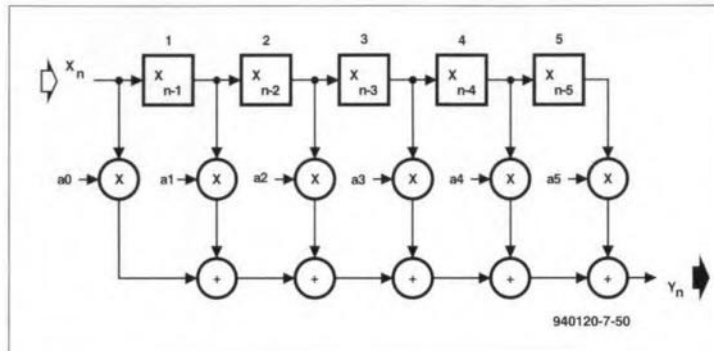

Fig. 51
The structure of a low-pass filter is shown in Fig. 51. The drawing is a block diagram of a digital IC with registers, multiplying sub-circuits and summing sub-circuits. It could also be taken as a flow chart of a mathematical operation. As such, it could be executed by hand on paper or by using
The present sample and the output from each register (the five previous samples) are each fed to multiplier units, which multiply them by one series of coefficients,  $a_0$  to  $a_5$ . These coefficients weight the samples in a way that gives the filter its characteristics. The array of multipliers is referred to as *taps*, since they tap the signal as it proceeds along the chain. The filter in Fig. 51 is a 6-tap filter.
To see how the filter operates, here is a numerical example. The filter in Fig. 51 has six taps and its output at any instant is represented by this equation
**Figure 53** lists a GWBASIC program that simulates digital filters of the type illustrated in Fig. 51. It is easily converted into other dialects